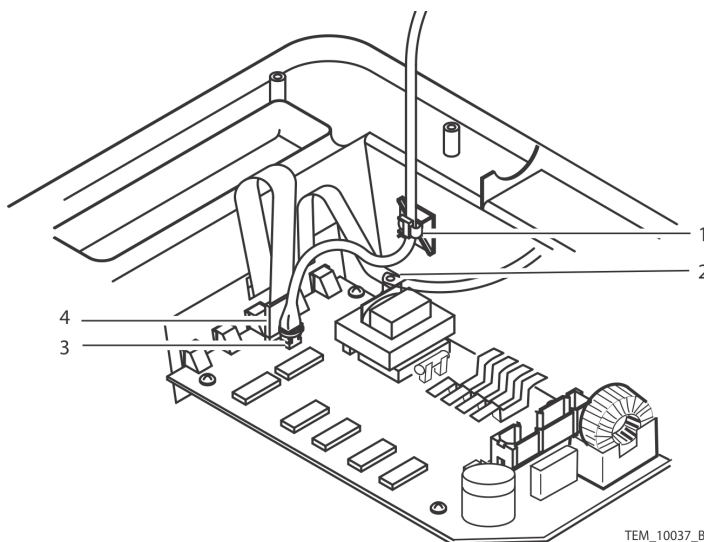

Figure 23. Cable Disconnect
9. Cut the cable tie securing the thermistor cable to the front cover assembly (Figure 23, item 1).
10. Remove the ground screw (Figure 23, item 2).
11. Cut the cable tie securing the thermistor cable connector (Figure 23, item 3) to the Control PCBA.
12. Disconnect the thermistor cable (Figure 23, item 3).
13. Disconnect the ribbon cable (Figure 23, item 4).